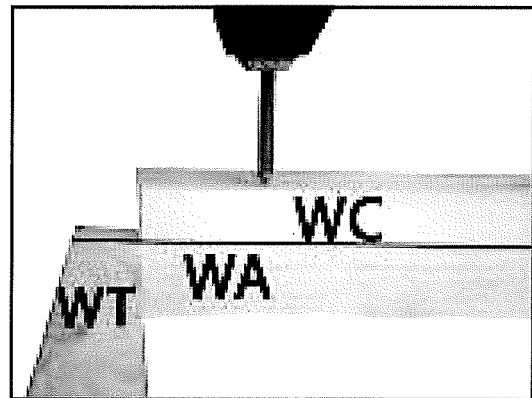

Fig A4
12. Fix to part **WC** to **WA** with 40mm screws ,spaced as before. (fig A4 & A5)